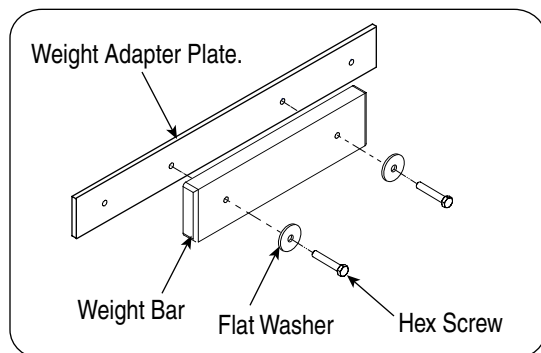

Figure 1
- Slide a flat washer onto each of the two 3/8" x 1-3/4" hex screws. See Figure 1.
- Align the two holes in the weight bar with the two threaded inner holes of the weight adapter plate. See Figure 1.